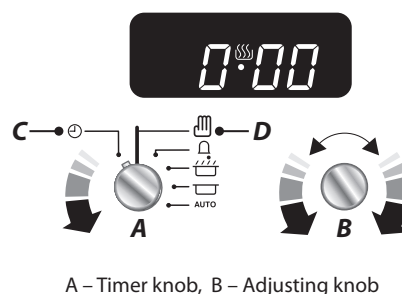

Fig. 4.1
2. To set the time, turn the **Timer (A)** knob to the **Clock (C)** setting and back to the **Manual (D)** position. The centre dot will flash indicating the time can be set. Turn the **Adjusting (B)** knob either clockwise or counter-clockwise (**Fig. 4.1**) to set the time.